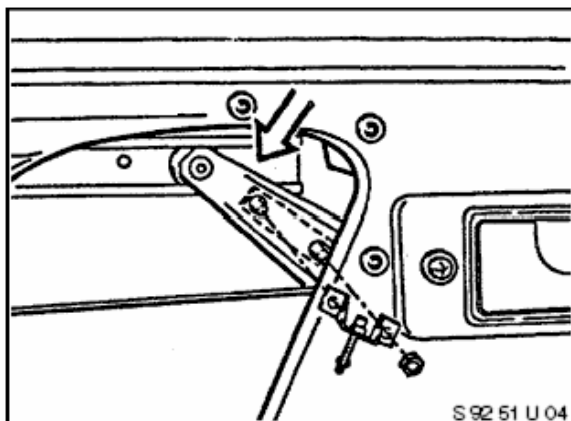

Figure 3
- Hold the stop in place on the already existing slot in the window regulator arm pointing toward the crossed linkage joint. At the same time, push the stop down as far as it will go (see figure 3).
(occurs automatically), see figure 3, arrow.